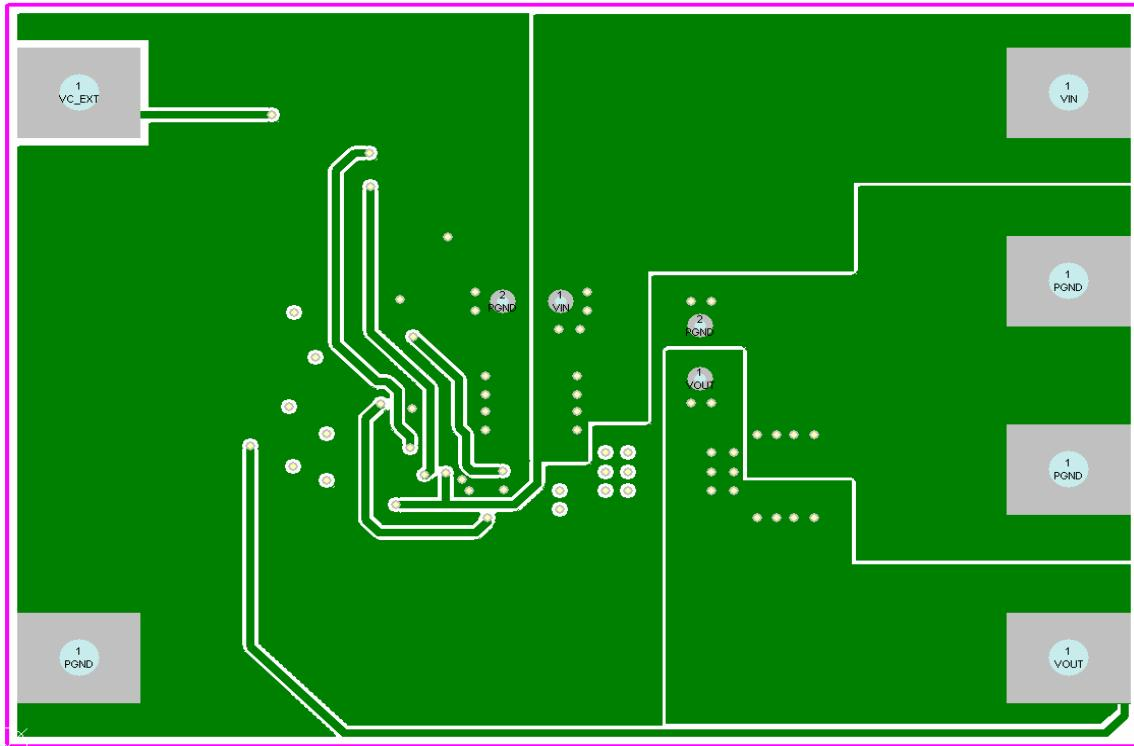

Figure 3c: IRPP3637-06A Reference Design mid-layer2 layout.
4. The feedback track from the output  $V_{out}$  to FB pin of the IC is routed as far away from noise generating traces as possible in mid-layer 2 as shown in figure 3c.